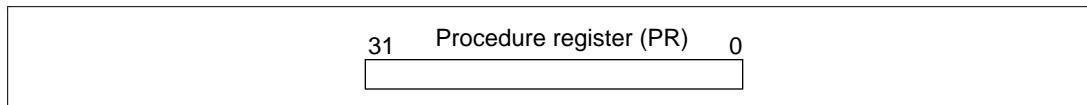

Figure 1.6 Procedure Register
Procedure Register (PR): Stores a return address from a subroutine procedure (figure 1.6).